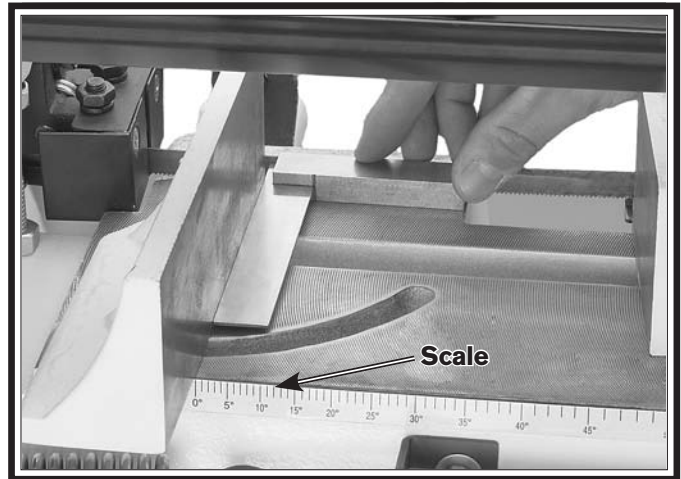

Figure 38. Squaring vise to blade.
2. Use the scale as a guide to set your angle or use a machinist square to set the angle of the vise fence, as shown in **Figure 38**.